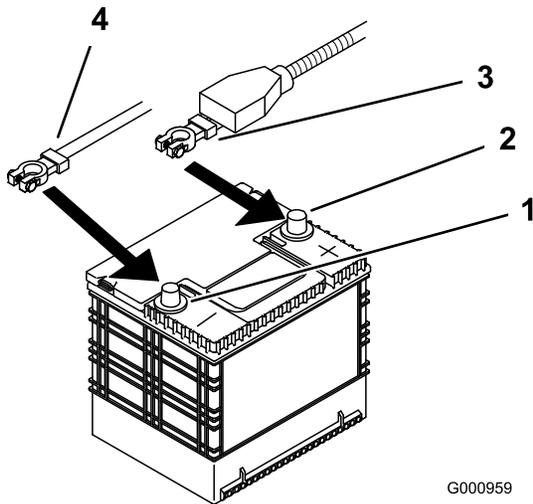

Figure 49
4. First disconnect the negative battery cable from the negative (-) battery terminal (Figure 49).
5. Slide the red terminal boot off the positive (red) battery terminal. Then remove the positive (red) battery cable (Figure 49).
1. Position battery in the tray with the terminal posts opposite from the hydraulic tank (Figure 49).
4. Secure the cables with 2 bolts (1/4 x 3/4 inch), 2 washers (1/4 inch), and 2 locknuts (1/4 inch) (Figure 49).